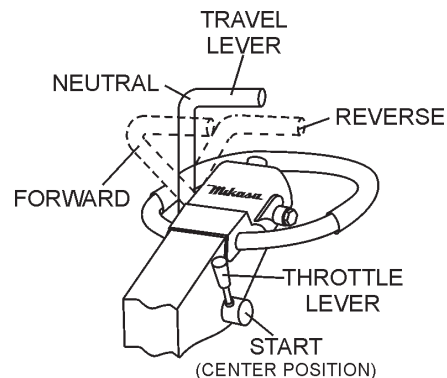

Figure 16. Travel/Throttle Lever (Start Positions)
2. Place the **throttle lever** (Figure 16) in the **START** position (center). Place the **travel lever** in the neutral position (center)
- Move the throttle lever to the **START** position (Figure 16).
1. Return the throttle lever to the **START** position (Figure 16). Allow the machine to cool down for 2 to 3minutes.